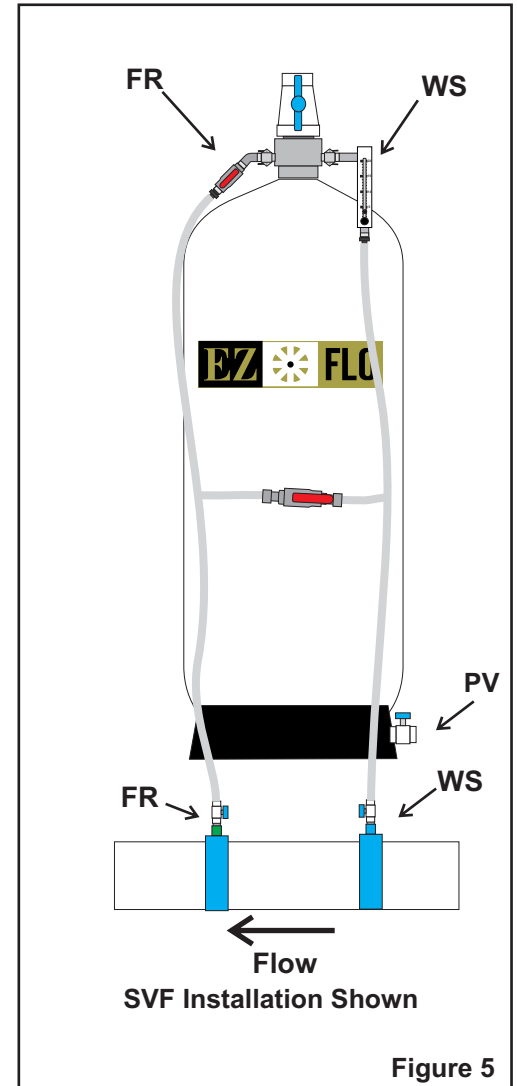

Figure 5
Step 2 - Connect tubing to the system and to the irrigation line. Connect the water supply **WS** tubing to the water supply connection on the irrigation main line and tank mixing head. Connect the fertilizer return **FR** tubing to the fertilizer return connection on the tank metering head and the irrigation main line as shown in figure 5.